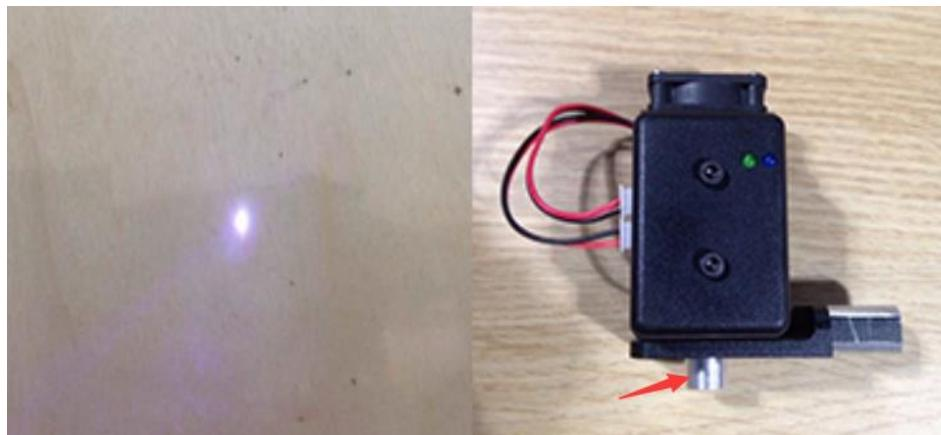

Figure 5.88 Adjust the focus
- If you cannot set the laser to be at its minimum focus, it's probably because the focal length is long. To shorten the focal length, slightly turn the silver lens screw (as shown in Figure 5.88) on the bottom of the laser kit.